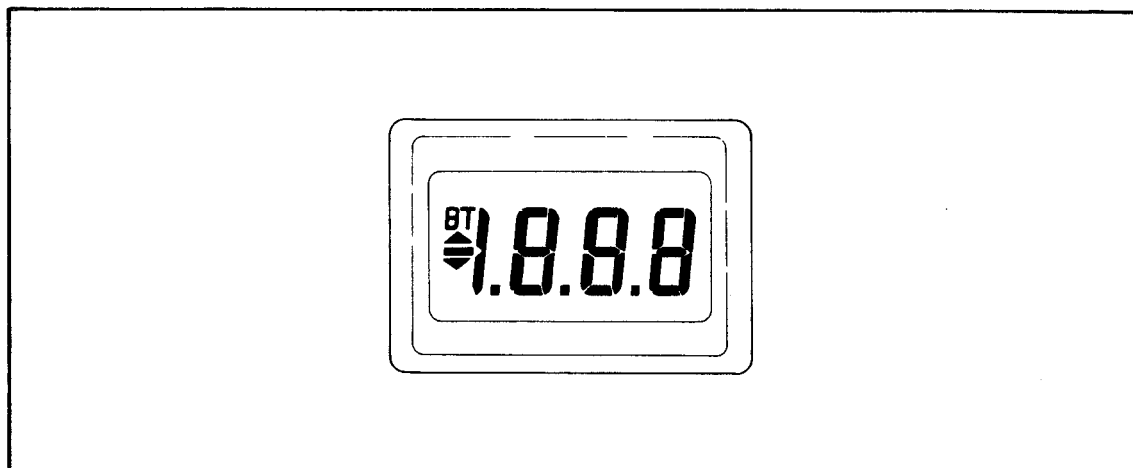

Figure 2-4. Display
2.22 As Figure 2-4 shows, your 8024B has a 3-1/2 digit liquid crystal display. Displayed values can range from 000 through 1999 (1999 is rounded to 2000 for ease of discussion). The decimal point position is determined by the selected range and is independent of selected function, except temperature. When the °C function is selected, the decimal point is not displayed. If the dc voltage or current measurement function is selected, the minus sign indicates that the input signal is negative with respect to the COMMON input terminal. If the °C measurement function is selected, the minus sign indicates that the input temperature is below zero. The absence of a minus sign indicates a positive reading. The minus sign is also used in conjunction with the up and down $\blacktriangle$ arrows when analyzing the input signal using the level detector function.